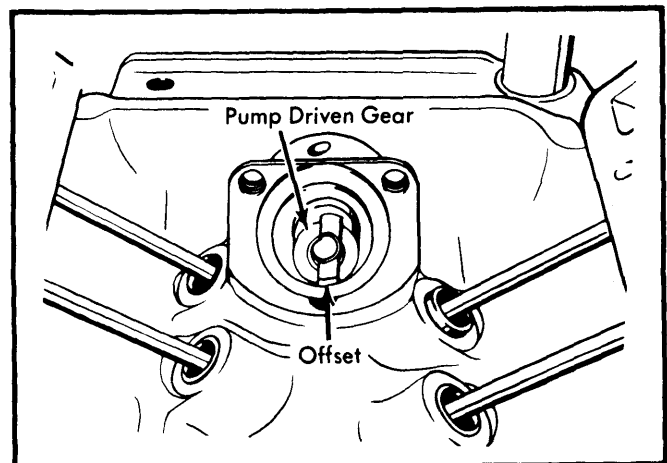

Fig. 9 View of Offset on Pump Driven Gear (Shown With Intake Manifold Removed)
2) Line up offset tang on pump driveshaft with pump driven gear and install pump. See Fig. 9.
2) Rotate engine to place No. 1 piston at Top Dead Center (TDC). Align mark on balancer with ZERO mark on indicator. See Fig. 9 for position of driven gear.